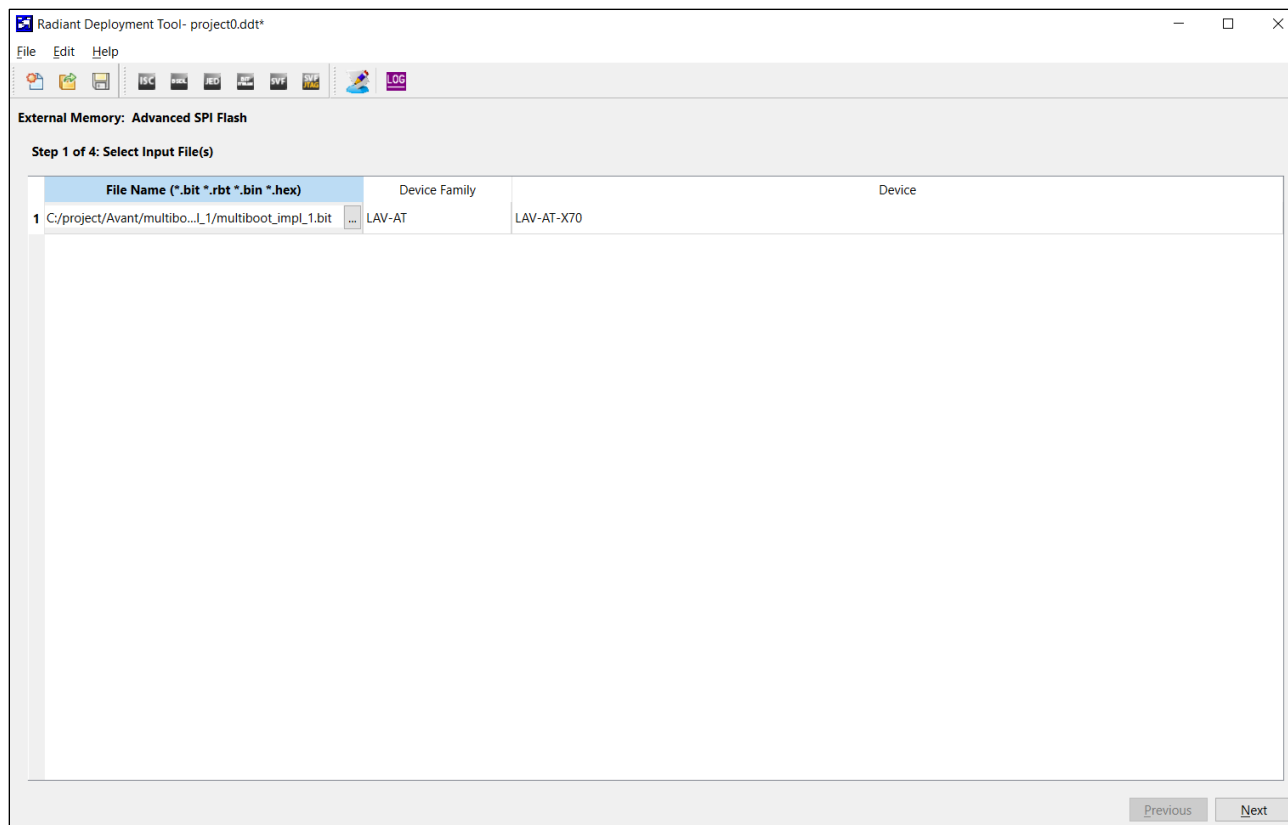

Figure 7.13. Select Input File(s) Window
Step 1 of 4: Select Input File(s) window (Figure 7.13)